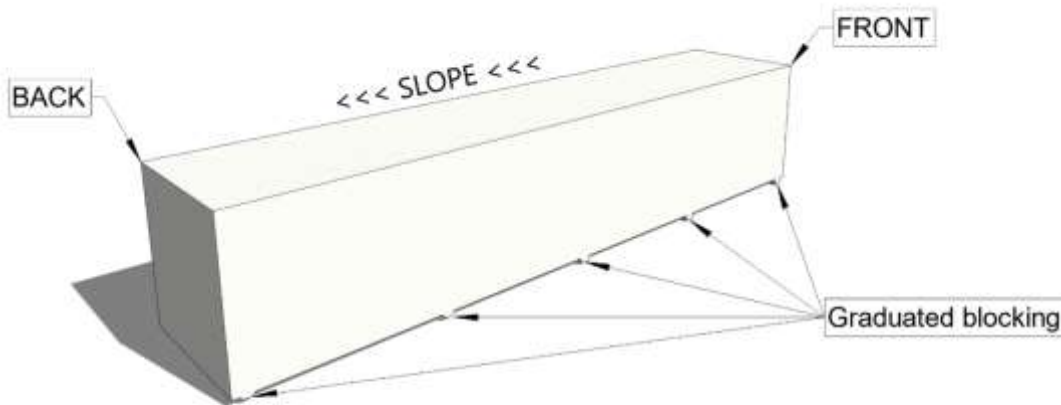

Fig. 5.2
- 5.2 Elevate one end of panel bundles to provide adequate drainage - use graduated blocking under bundle bearing pads as required (figure 5.2).